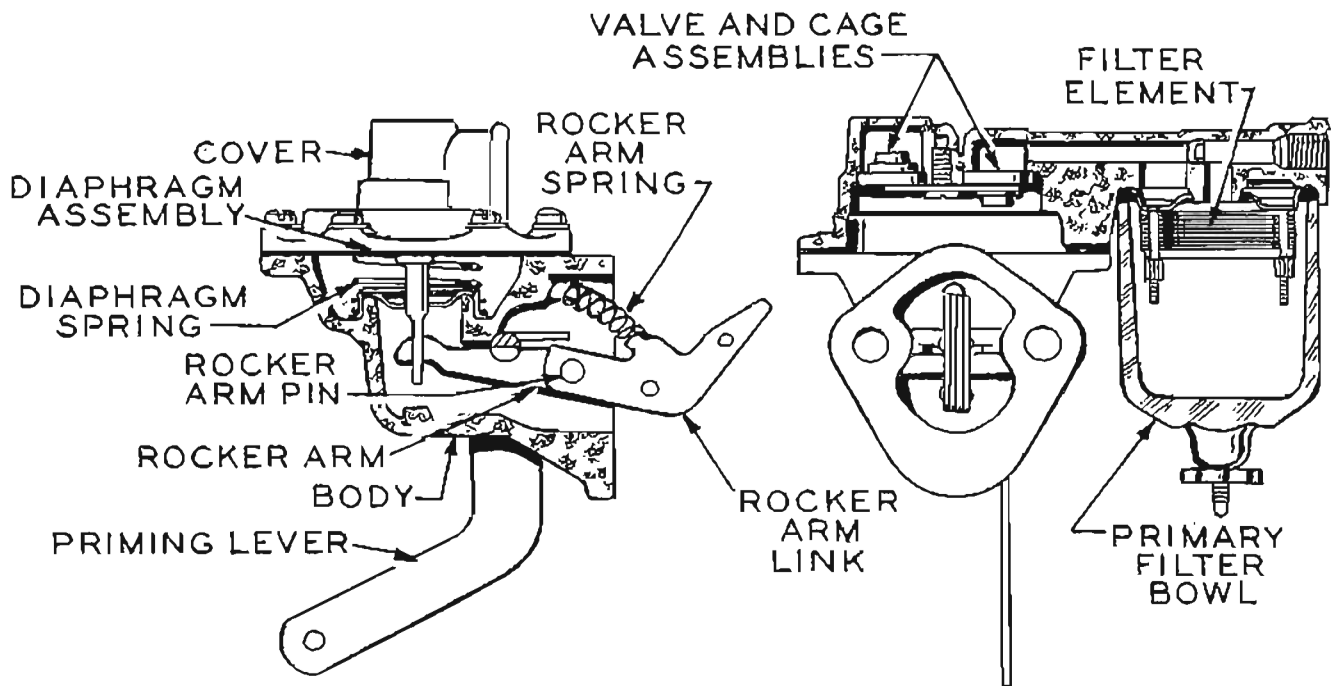

Figure A-7. Cross Section Of Fuel Pump.
(2) Removal & Disassembly (fig. A-7).
(b) Insert the link and rocker arm into the body; hook it over the diaphragm pull rod. Align the rocker arm with the rocker arm pin hole and drive in the pin. The priming lever must be in the position shown in figure A-7 when installing the rocker arm.